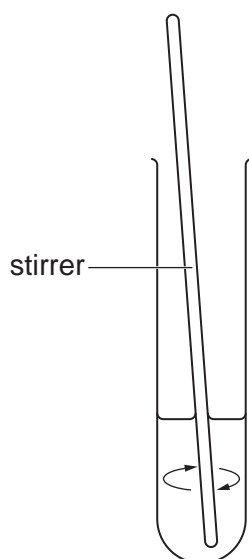

Fig. 1.3
5. As shown in Fig. 1.3, stir **H** and **D** until mixed together.